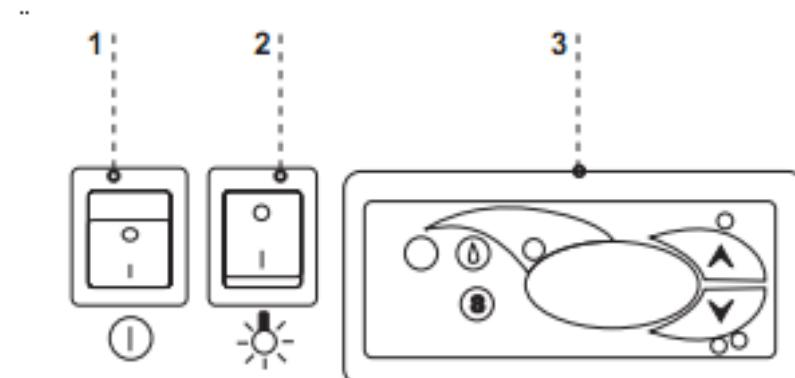

Fig. 8 Device control panel
- Switch the main switch on *Fig. 8 (p.9)*, which will start the thermostat and then the cooling unit.
- Set the temperature on the thermostat panel *Fig. 8(p.9)* (detailed description on *p.18 or 19*)
- Switch the lighting button on *Fig. 8 (p.9)*